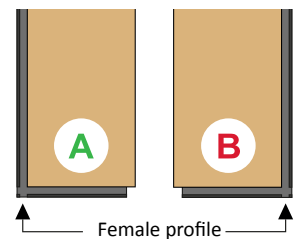

Fig. 1
A-planks can be identified by the lower female profile being on the Left hand side; and the B-planks with the lower female profile on the Right hand side (Fig. 1).
- The key to a successful floating Herringbone installation is to first form a number of triangles from A and B planks as shown below in figures 1 – 11 which fit along the longest wall to commence the installation.